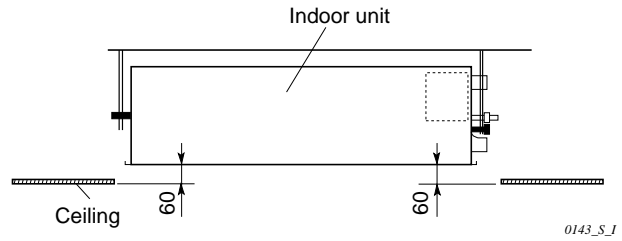

Fig. 11-2
- (1) Adjust the distance between the unit and the surface of the ceiling (60 mm) using the 2 hexagonal nuts as shown in Fig. 11-2 while paying attention to the accessory installation gauge.